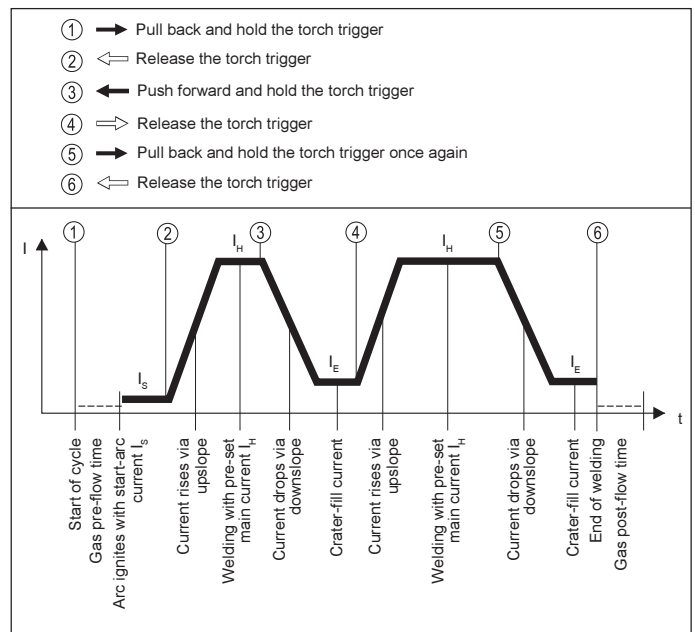

Fig. 4a Functional sequence in 4-step mode - Variant I - with intermediate lowering
**4-step mode - with intermediate lowering (Fig.4a)**